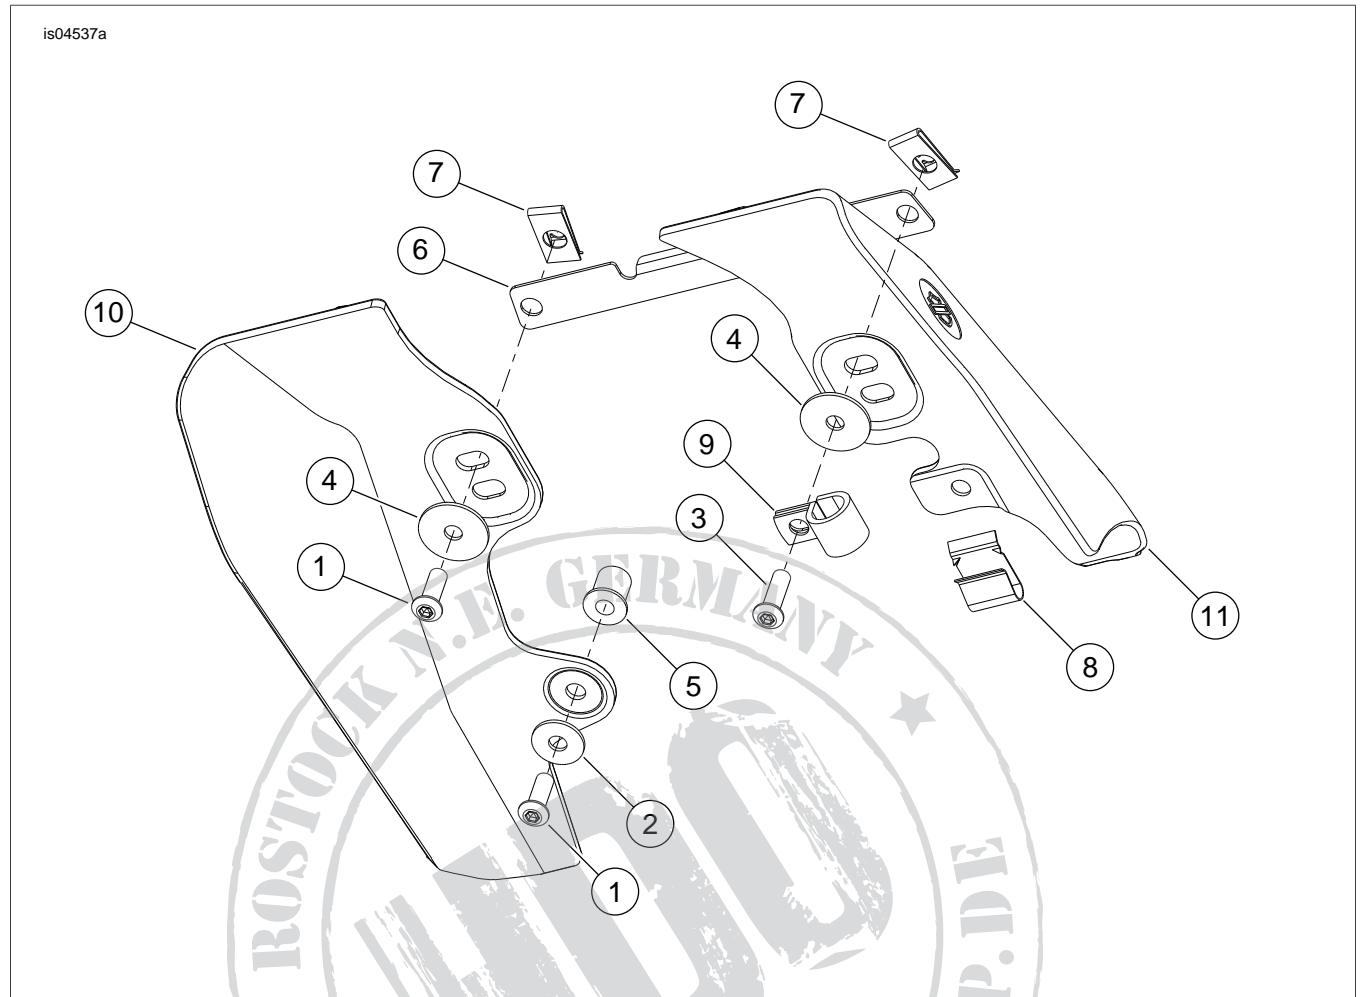
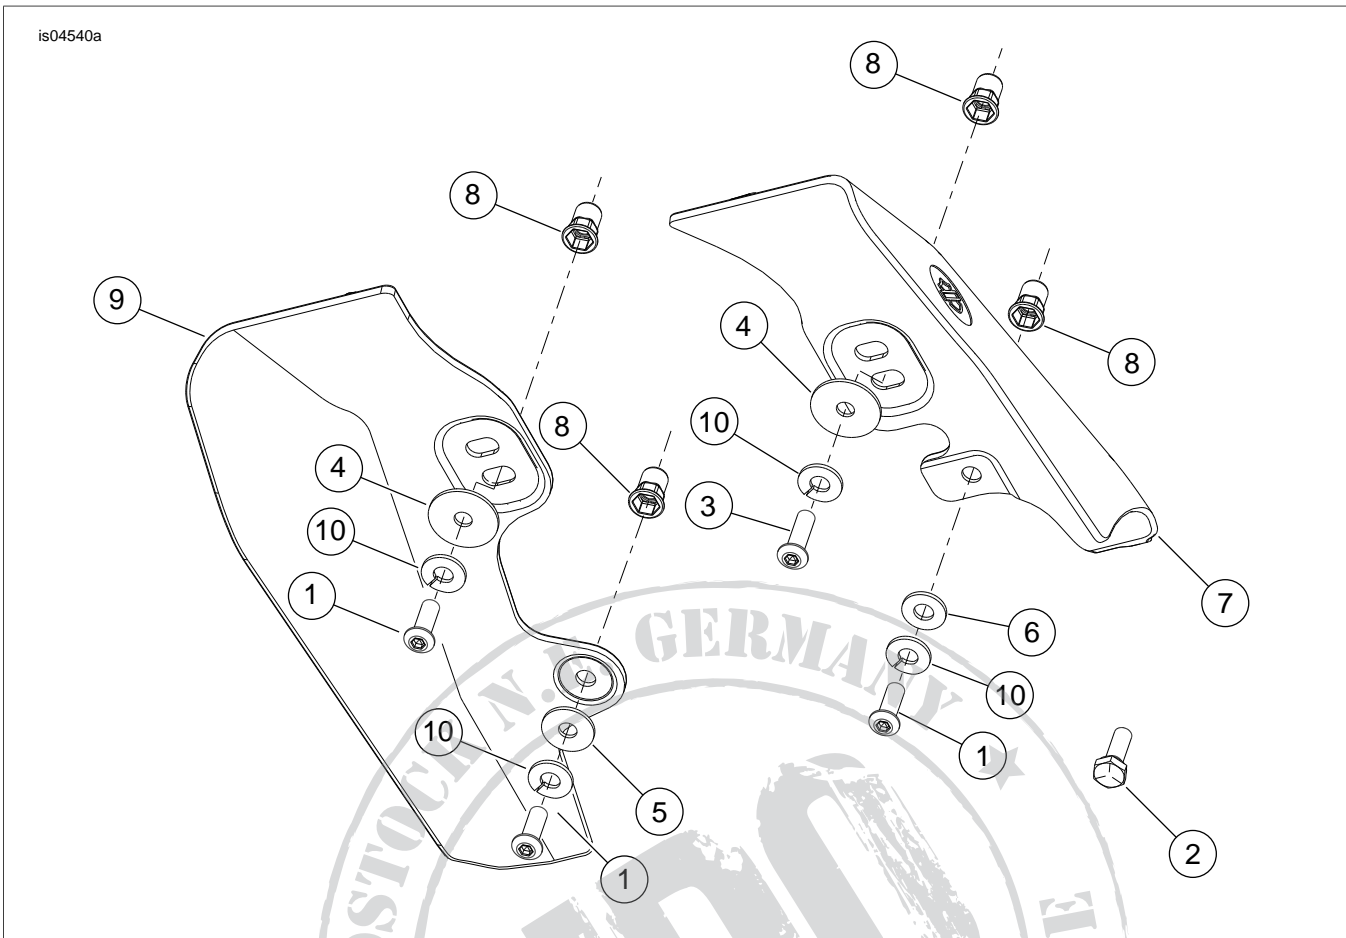

Figure 5. Service Parts: Mid Frame Air Deflectors Kit, 2001-2007 Models
Figure 6. Service Parts: Mid Frame Air Deflectors Kit, 2008 Models
See Figure 5 and Table 1 and Figure 6 and Table 2.
6. Insert well nut (3) into underside of frame plate. Apply liquid soap to the outer surface of the well nut to ease installation.
7. Remove 3/4 inch screw (1), then position right side deflector as shown and secure with the 3/4 inch screw and 1 inch washer. Do not tighten.
8. Install screw and small washer (3). Do not tighten.
10. Remove left side mounting strap screw (2).
11. Install cable clamp (Figure 5, Item 9) to cruise control cable (if equipped).
- a. See Figure 6 and Table 2. Obtain special nut (8), hex cap screw (2) and washer (5) from kit.